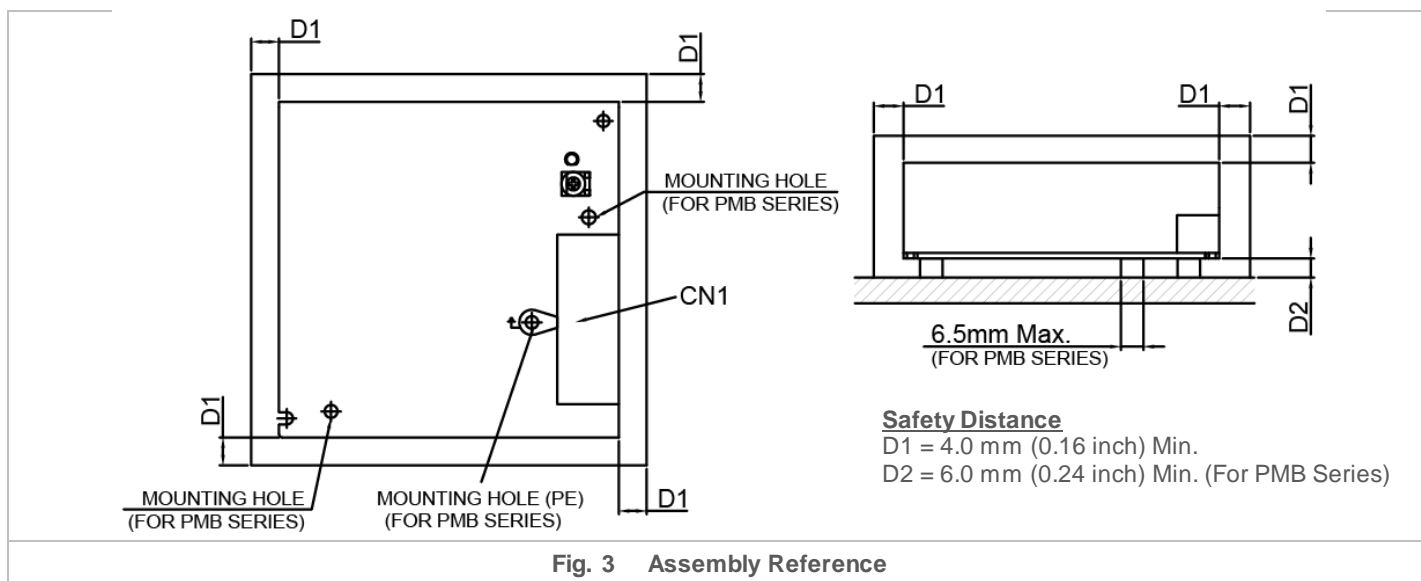

Fig. 3 Assembly Reference
- PM□-12V35W1AA□ / PM□-12V35W1AG:** Use flexible cable (stranded or solid) of AWG No. 22-12. User should calculate and select the suitable wire specification (type/quantity/diameter) according to actual output current. The torque at the Connector shall not exceed 13 Kgf.cm (11.23 lbf.in). The insulation stripping length should not exceed 0.275" or 7 mm (Refer to Fig. 3).
- **For PMB Series: (Refer to Fig. 3):** The mounting holes on any mounting accessories for the device should be kept at a diameter of $< 6.5\text{ mm}$ (0.26 inch). This is to ensure sufficient safety distance between the mounting screw and the components around the mounting holes on the PCBA. Therefore, the diameter of the mounting screw should be kept at $< 6.5\text{ mm}$ (0.26 inch).